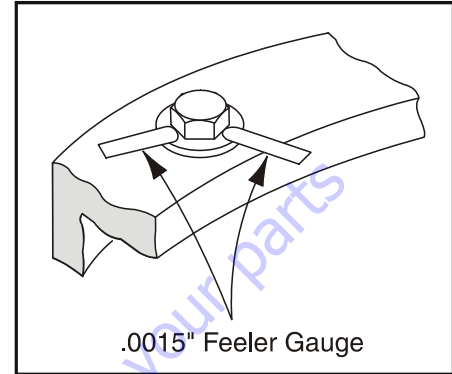

Figure 3-37. Swing Bolt Feeler Gauge Check
- b. At the position indicated on Figure 3-37, try to insert the 0.0015" feeler gauge between the bolt head and hardened washer at the arrow indicated position.